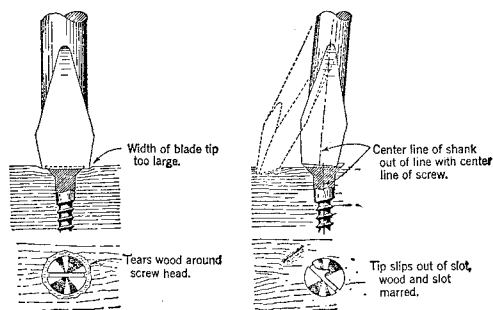

Fig. 3
3.03 Figs. 3 through 7 illustrate what is likely to occur if a screwdriver is not maintained in good condition, is of the wrong size, or is improperly used. These conditions promote neither safety nor satisfactory workmanship. Also, screws with damaged slots are difficult to remove.